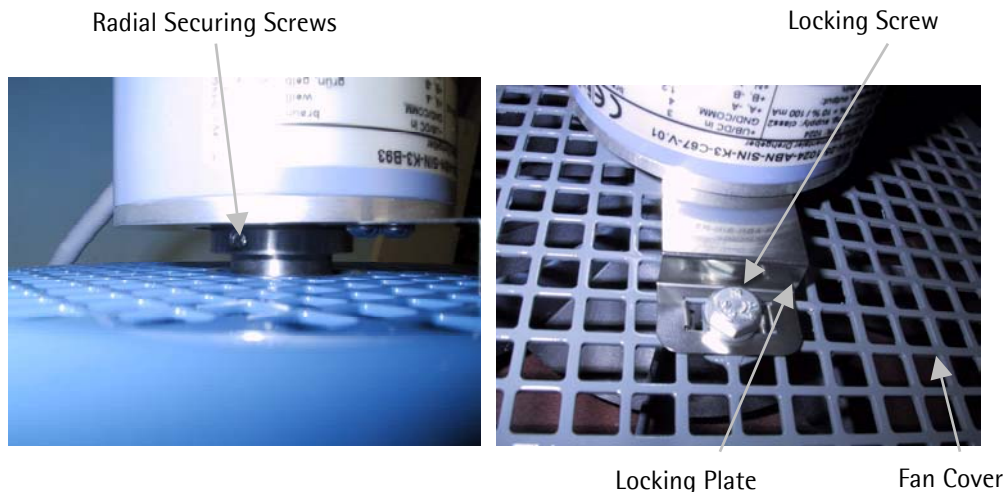

Fig. 23: Securing the Incremental Encoder      Fig. 24: Incremental Encoder Support
- Loosen the two Radial Securing Screws that can be found under the Incremental Encoder (Ref. Fig. 23).